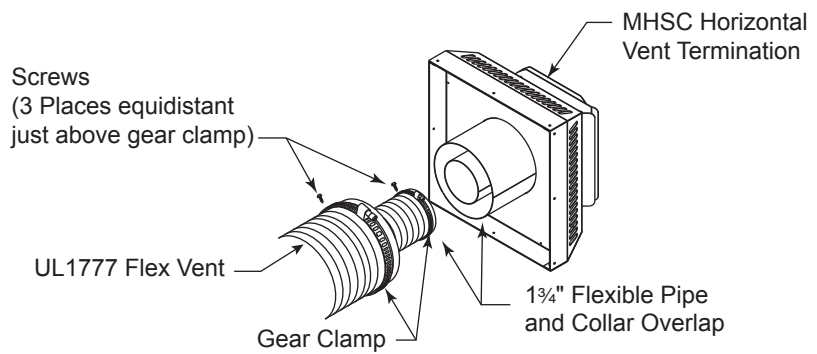

Figure 40 - Typical Horizontal Flex Vent Installation
1. Connect the 5" flexible vent to the horizontal termination as in *Figure 40*.
2. Connect the 8" flexible vent to the termination ring as in *Figure 40*.
3. Review *Figure 40* for proper overlap and clamp placement.
5. Use only listed an approved terminations and accessories, installed per the termination instructions and *Figure 40*.